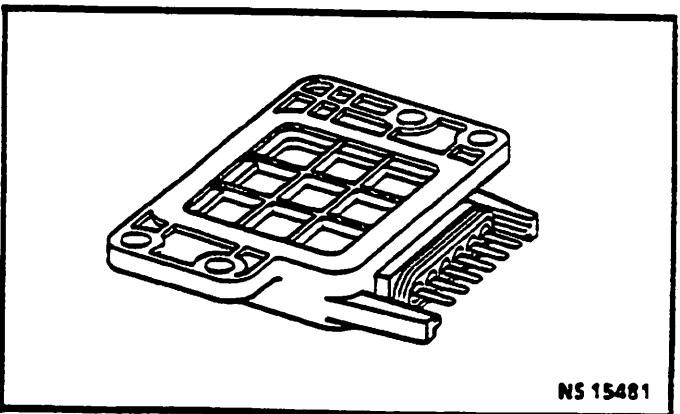

Figure 9 - KS Module
KNOCK SENSOR (KS) MODULE Figure 9